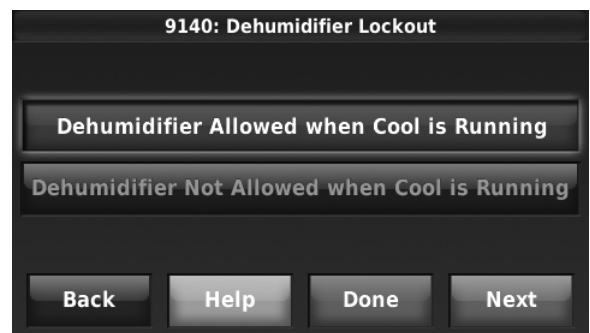

Fig. 143.
7. Set the desired lockout option. See Fig. 143.